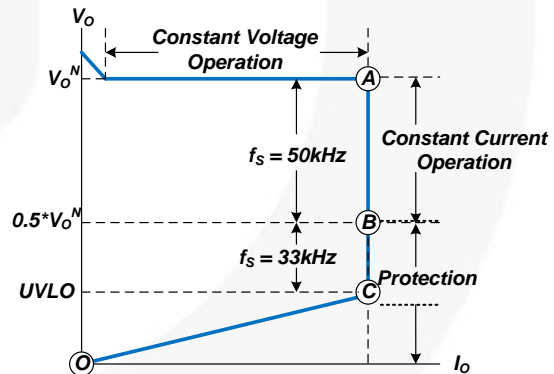

Figure 23. Operation Area
Figure 23 shows operation area. FL663 has two switching frequency (fs) in Constant Current Mode. One is 50 kHz. In this case, FL663 can be operated with best condition for LED illumination. The output voltage range is between normal output voltage (VON) and 50% of normal output voltage (VON). The other is 33 kHz. When the output voltage is dropped by decreasing the number of LEDs, the output voltage (VO) drops under 50% of normal voltage (VON). At that time, VDD drops to near UVLO protection and triggers protection. To avoid 33 kHz, VON should be designed with enough margin.